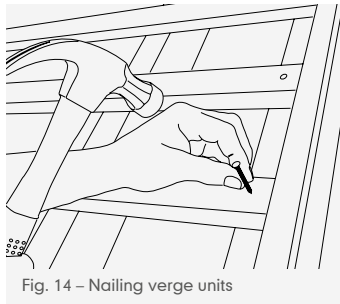

Fig. 14 – Nailing verge units
- 6 Secure the verge extrusion by driving the annular ring shank nails provided through each tiling batten (40mm from the end) into the extrusion (Fig 14). Alternatively, drill out, then plug and screw to top of gable (if brickwork).